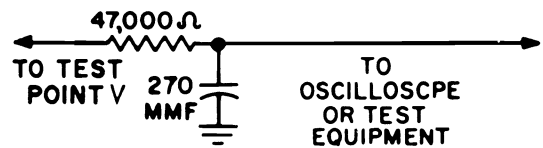

Fig. 5 DECOUPLING FILTER
4. Connect oscilloscope high side to test point "V" through a decoupling filter (see figure 5), low side to chassis.
Connect VTVM high side to test point "V" through a decoupling filter, see Figure 5. Connect low side to chassis.